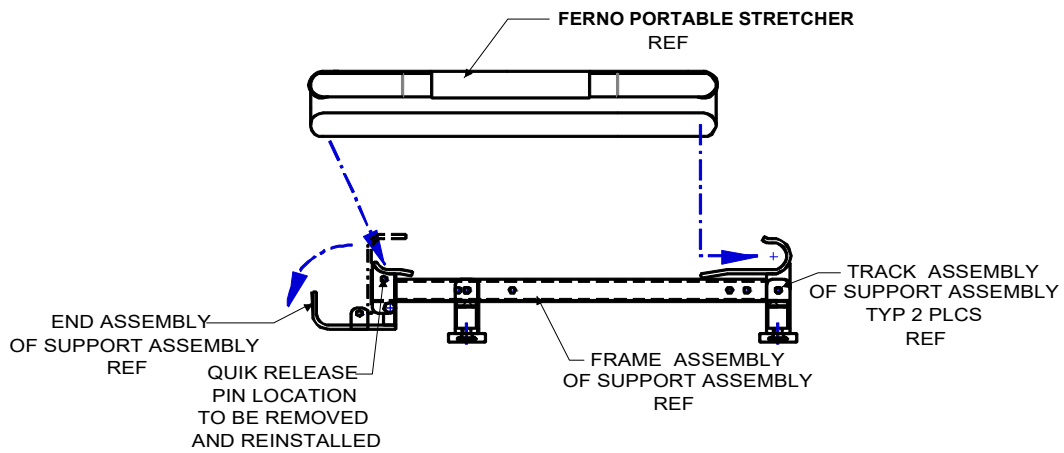

Figure 1.0C
- c. Install the Ferno Portable Stretcher on to the support assemblies by removing the quick release pin to allow the end support hook to rotate 90 degrees inboard. Place Ferno Portable Stretcher on support rests and shift outboard until the portable stretcher frame is capture by the outboard hook. Rotate the inboard end support hook back into place and lock Ferno Portable Stretcher into place by reinstalling the quick release pin. See Figure 1.0C.
- a. Remove the Ferno Portable Stretcher from the support assemblies by removing the quick release pin to allow the end support hook to rotate 90 degrees inboard. Remove Ferno Portable Stretcher by shifting it inboard until the portable stretcher frame is clear of the outboard hook. See Figure 1.0C.